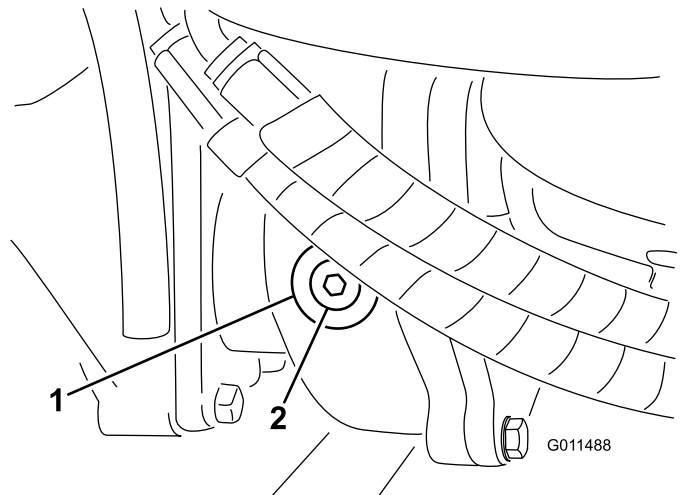

Figure 71
2. Remove the check/fill plug from the left side of the gear box and ensure that lubricant is up to the bottom of the hole (Figure 71).